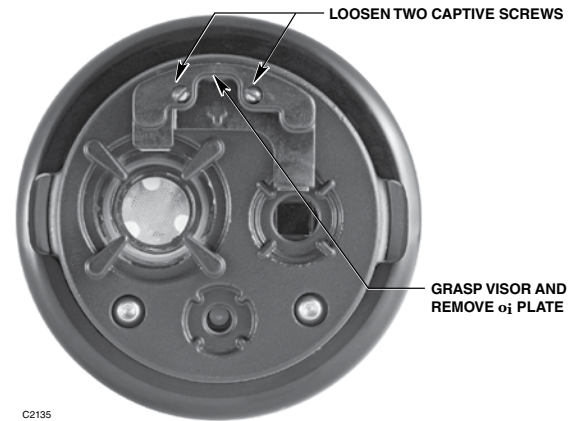

Figure 14—**oi** Plate Removal
2. Loosen the two captive screws, then grasp the **oi** plate by the visor and remove it from the detector. See Figure 14.